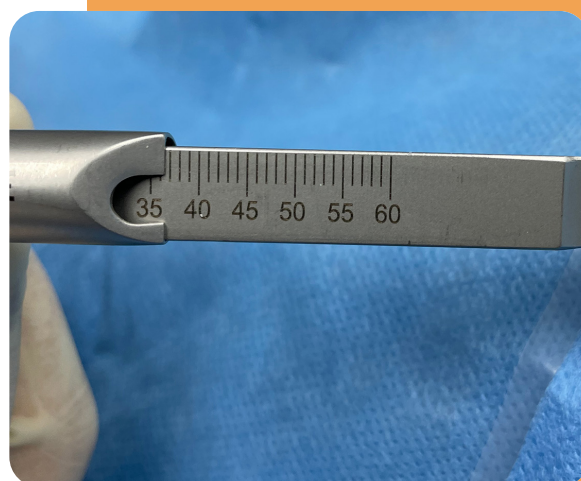

Fig. 18 - Read Depth Gauge Marking
- 11B After pre-drilling, the Depth Gauge should be used such that the Depth Gauge body comes into contact with the bone and the Depth Gauge Wire can be placed through the predrilled hole. The hook at the end of the Wire can grab onto the far cortex. The measurement indicated by the Depth Gauge reflects the appropriate Half Pin thread length (Fig. 18).